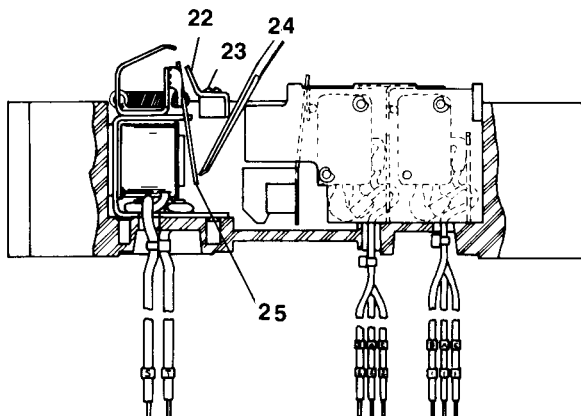

Fig. 12
2. If breaker cannot be latched, check trip lever (22) and be sure it is not interfering with the armature and rotating the tripper bar (10). Bend the trip lever away from the armature if required, then repeat step 1. Refer to Fig. 12.
3. With breaker contacts closed, position a small screwdriver (24) under the tripper bar (10) and depress armature (25) of the shunt trip device. Breaker should trip when armature is depressed.